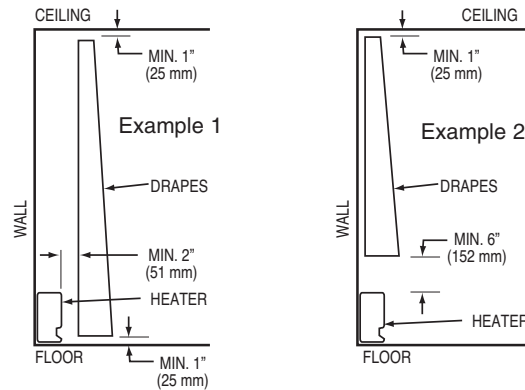

Figure 2: Clearance for Drapery
6. **CAUTION – Heater Operates at High Temperatures.** Keep Electrical Cords (including telephone and computer cables), Drapes, and Other Furnishings Away From Heater. For efficient and safe operation, we recommend maintaining a minimum of 6 inches (152 mm) clearance above and in front of the heater at all times. See Figure 2 for minimum clearance requirements for drapery.
Heater to Drapery: do not install heater where curtains or drapery will contact the heater. See Fig. 2 for required minimum clearances.